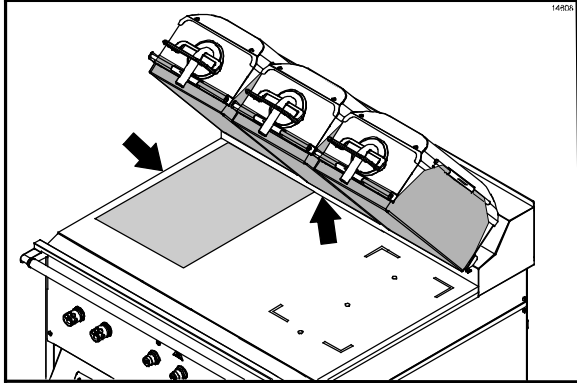

Figure 17
8. With the narrow side of the lower release sheet facing the back of the grill, hold the release sheet about one inch from the end of each side. Align the back edge of the release sheet with the back splash and the side edge of the grill. (See Figure 17.)